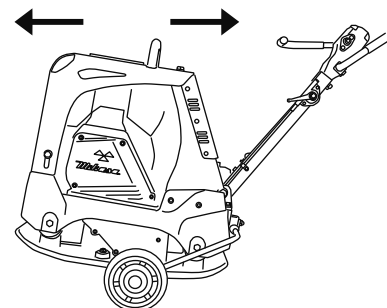

Fig.31
- 3 Pull back the handle to the rear, and lift up the vibrating plate by cart. Then, move the machine keeping horizontal position. (Fig. 31)